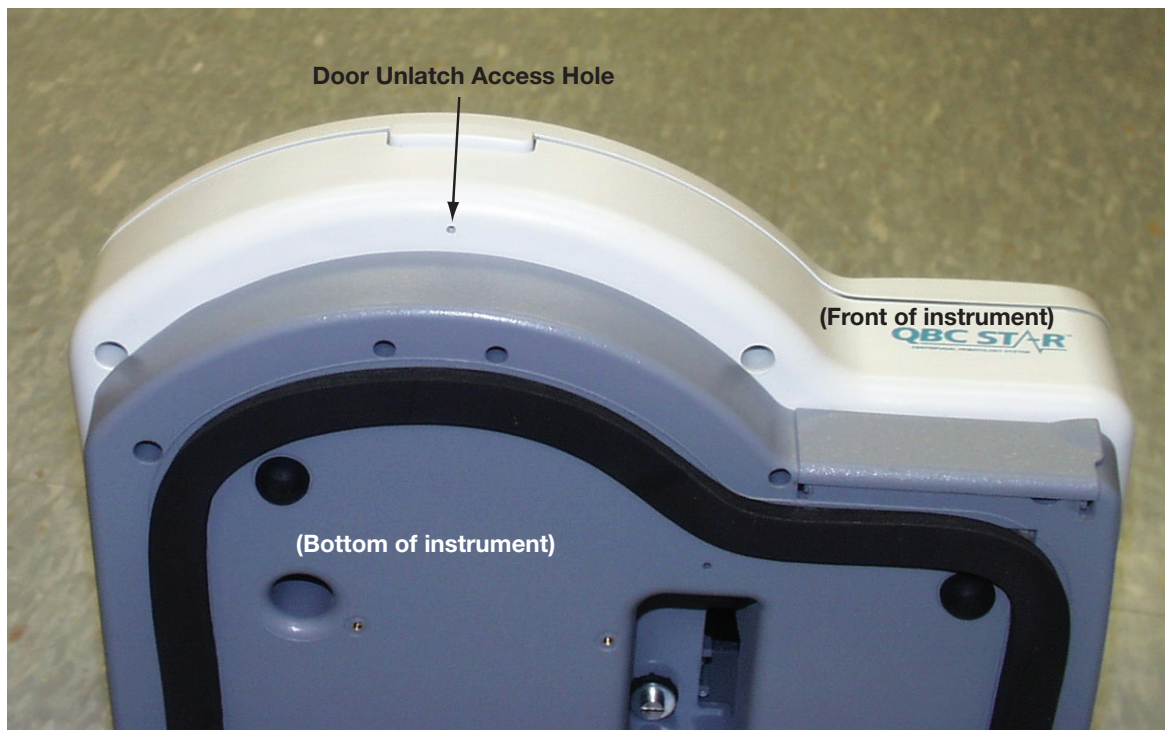

Figure 21 – Door Unlatch Access Hole
- 1 Make sure the power switch is in the "Off" position (O) and the power cord is disconnected from the instrument.
- 3 Locate the door latch access hole in the bottom of the instrument. It is almost directly below the door release latch. (See Figure 21.)